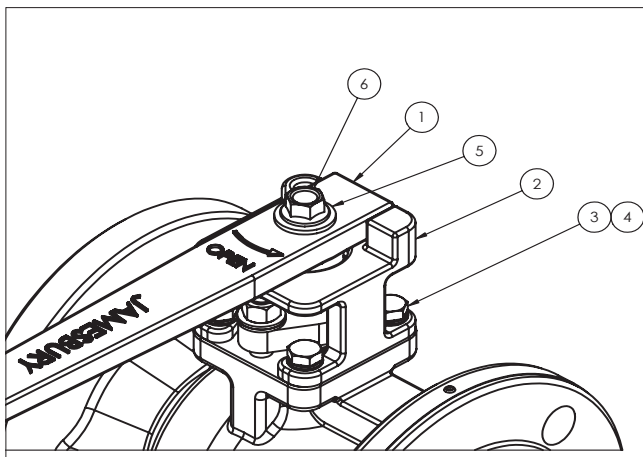

Figure 12. Handle Assembly
2. Lower the handle bracket (2) straight down in line with the valve stem until it is flat on the valve bonnet, and all four mounting holes align with tapped holes on the valve (see **Figure 12**).
**NOTE:** Positive stop feature on the handle bracket (2) should be forward, towards the insert.